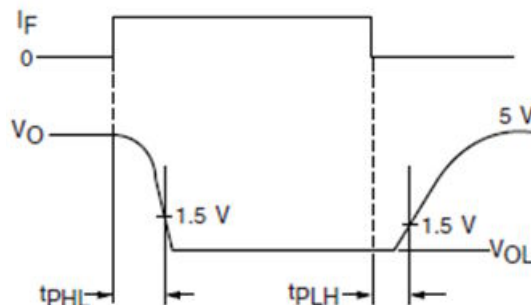

Fig. 1 - Switching Times
(1) See fig. 1 and timing simulation setup on page 3.